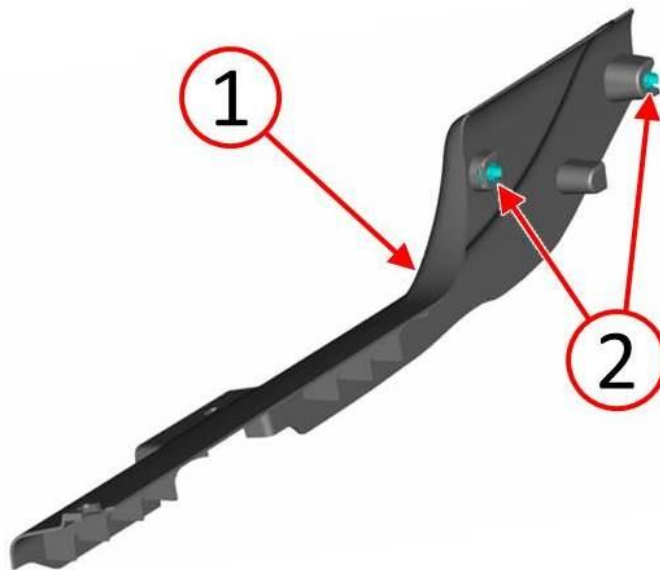

Fig. 6 Install Cowl Trim Panel
16. Install the NEW cowl trim panel (1) to the stud clips (Fig. 6). Refer to the detailed service procedures available in DealerCONNECT> TechCONNECT under: Service Info> 23 - Body> Interior> PANEL, Cowl Trim> Installation.